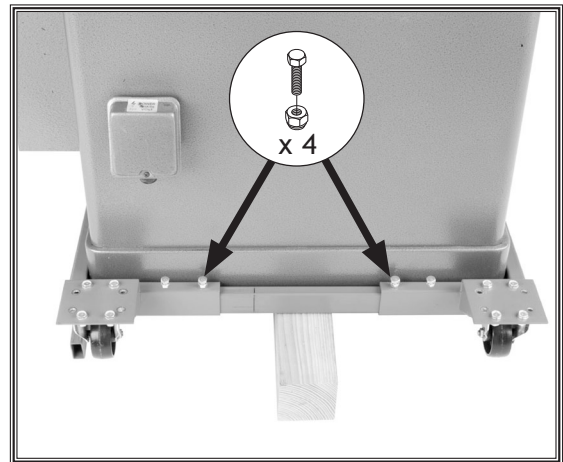

Figure 20. Rear rail-fixed caster assembly secured.
12. Fasten the corner brackets to the rail with (4) M8-1.25 x 16 hex bolts and 8mm lock nuts, as shown in **Figure 20**.